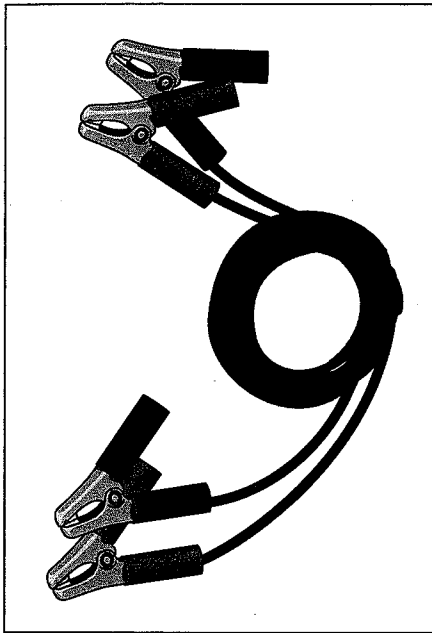

Figure 2-21:
- ✓ **Jumper cables:** One of the most common automotive malfunctions is the loss of power to start it, either from an old or faulty battery or from leaving the headlights on by mistake. If you're in this situation, you can either wait for the AAA or a nearby garage to come and bail you out, or, if you're in a safe, well-populated area, you can stop a passing car, whip out your jumper cables (shown in Figure 2-21), attach them in seconds, and "jump a start" from the Good Samaritan's car to your own. Most people are willing to lend their cars to this sort of operation because they lose nothing but a few minutes of their time, but it's up to you to decide whether you want to risk getting car-jacked if the Good Samaritan turns out to be a devil in disguise. Chapter 21 has instructions for the proper way to jump a start.